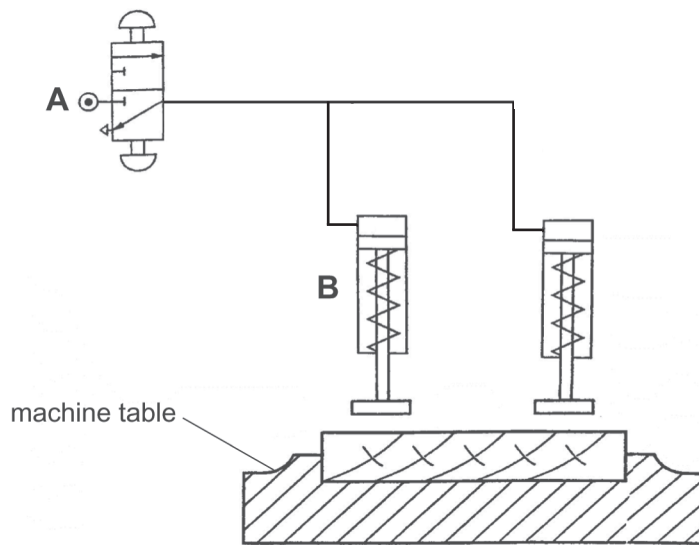

Fig. 3
- 6 Fig. 3 shows a pneumatic circuit that is used to clamp parts on a machine table. The clamps are to be applied at the same time.